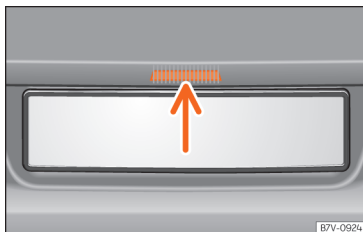

Fig. 101 Opening the boot hatch from the outside
- Raise and open the rear lid by pressing the button »» **Fig. 101** (arrow).